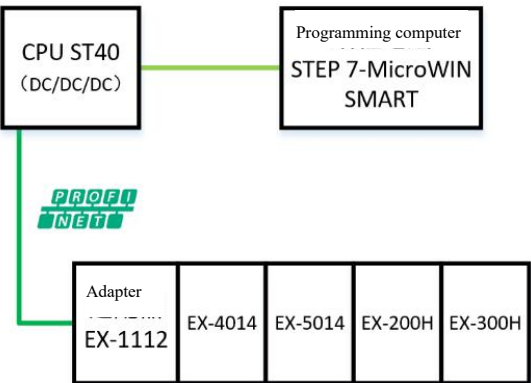

Figure 5-9-13 Communication connection diagram
1. Communication connection diagram, as shown in Figure 5-9-13.